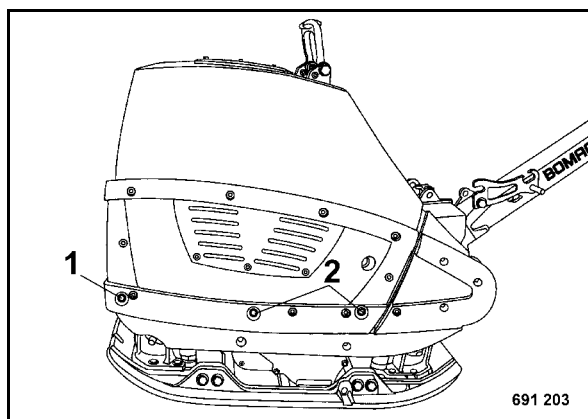

Fig. 22
- Loosen the hood fastening screws (1) on both sides and remove the hood fastening screws (2) on both sides (Fig. 22).